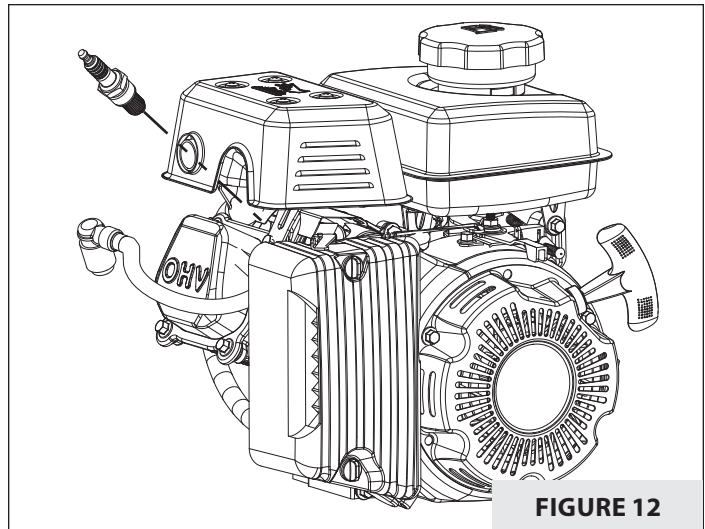

FIGURE 12
The recommended spark plug can be located in the Illustrated Parts Breakdown (IPB). The spark plug is located directly under the muffler. **SEE FIGURE 12.**
4. After analysis, seat spark plug and tighten with spark plug wrench to compress the sealing washer. **SEE FIGURE 12.**
1. Disconnect spark plug wire from spark plug. Remove spark plug and protect spark plug hole from debris. **SEE FIGURE 12.**